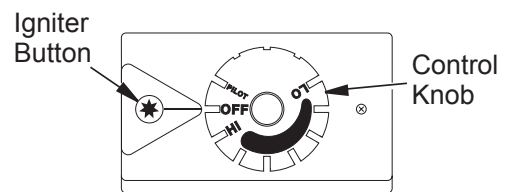

Figure 25 - Control Knob In The OFF Position
4. Wait five (5) minutes to clear out any gas. Then smell for gas, including near the floor. If you smell gas, STOP! Follow "B" in the safety information, above. If you don't smell gas, go to the next step.
5. Turn control knob counterclockwise ↻ to the PILOT position. Press in control knob for five (5) seconds (see Figure 25).